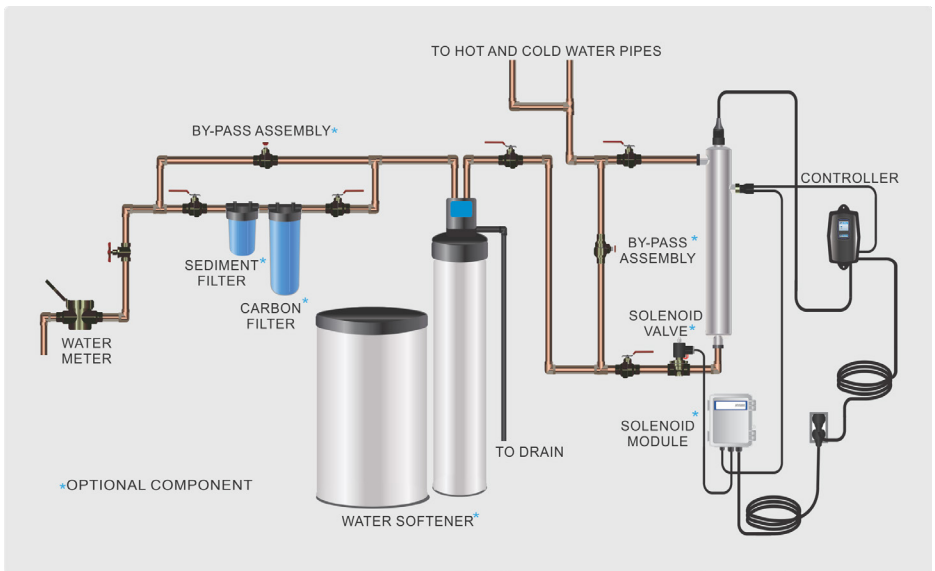

Figure 1. Example Installation
Choose a location where the main cold water line is accessible. The system must be installed after other water treatment equipment (softener or filters), but before any branches (See Figure 1). Calmag recommends that a 5 micron filter be installed **before** the UV system for a final polishing step before the water is disinfected (included with the CalUltra 12 and CalUltra 22 models).
Step 10: Mount the controller (if required) to the wall so it is above or beside the reactor to ensure that no moisture can deposit on any of the connections (see Figure 1). Always mount the controller vertically. For sensor systems, insert the sensor connector into the IEP port located on the right side of the controller (Figure 6). For the sensor to be recognized by the controller, the controller power must be plugged in last. **Do not plug the controller power cord in before the last step.**